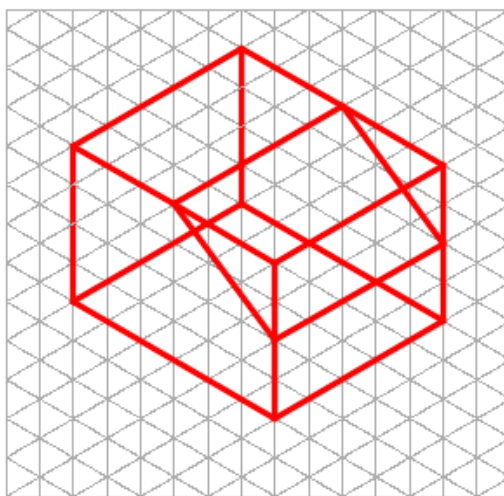

Figure Step 8
Step 8 To draw the contour of the Front view, count the number of grids for the diagonal cut off. It is 3 grids on the X axis and 2 grids on the Z axis. Using those dimensions, draw the inclined lines on the front and rear view and add the lines to connect them. (Figure Step 8)